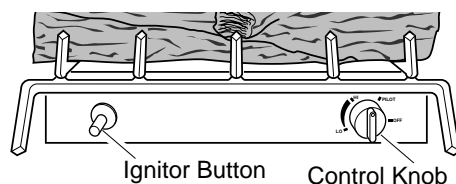

Figure 30 - Control Knob and Ignitor Button Location
4. Wait five (5) minutes to clear out any gas. Then smell for gas, including near the floor. If you smell gas, STOP! Follow "B" in the safety information above. If you don't smell gas, go to the next step.
5. Slightly depress and turn control knob counterclockwise  to the PILOT position. Press in control knob for five (5) seconds (see Figure 30).